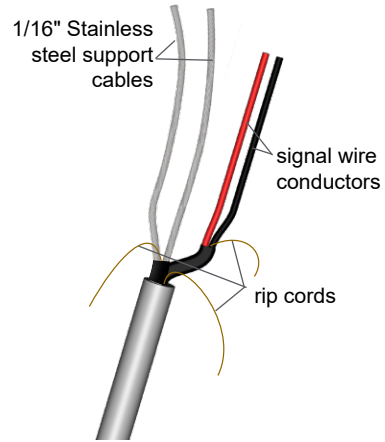

Figure 2a. Cable stripped with rip cords showing
2. Pull the rip cords down as far as needed and cut off any extra cable insulation (Figures 2a , 2b).